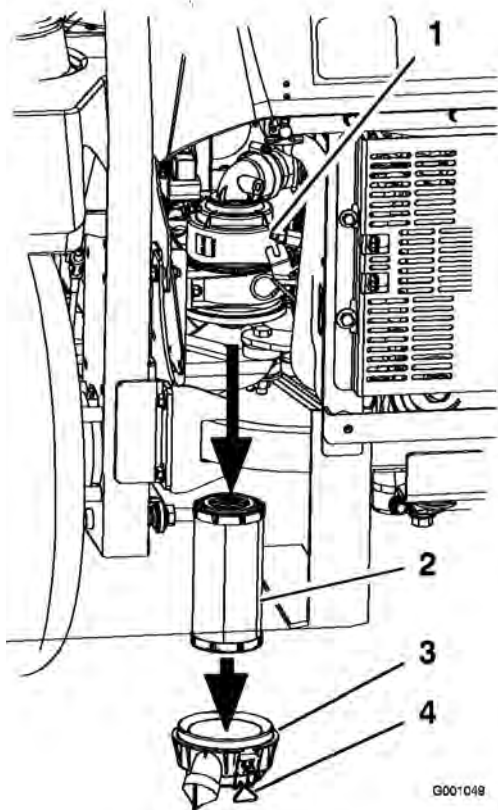

Figure 35
3. Release the latches on the air cleaner and pull the air cleaner cover off of the air cleaner body (Figure 35).
5. Gently slide the filter out of the air cleaner body (Figure 35). Avoid knocking the filter into the side of the body.
2. Carefully slide the filter into the filter body (Figure 35). Ensure that it is fully seated by pushing on the outer rim of the filter while installing it.